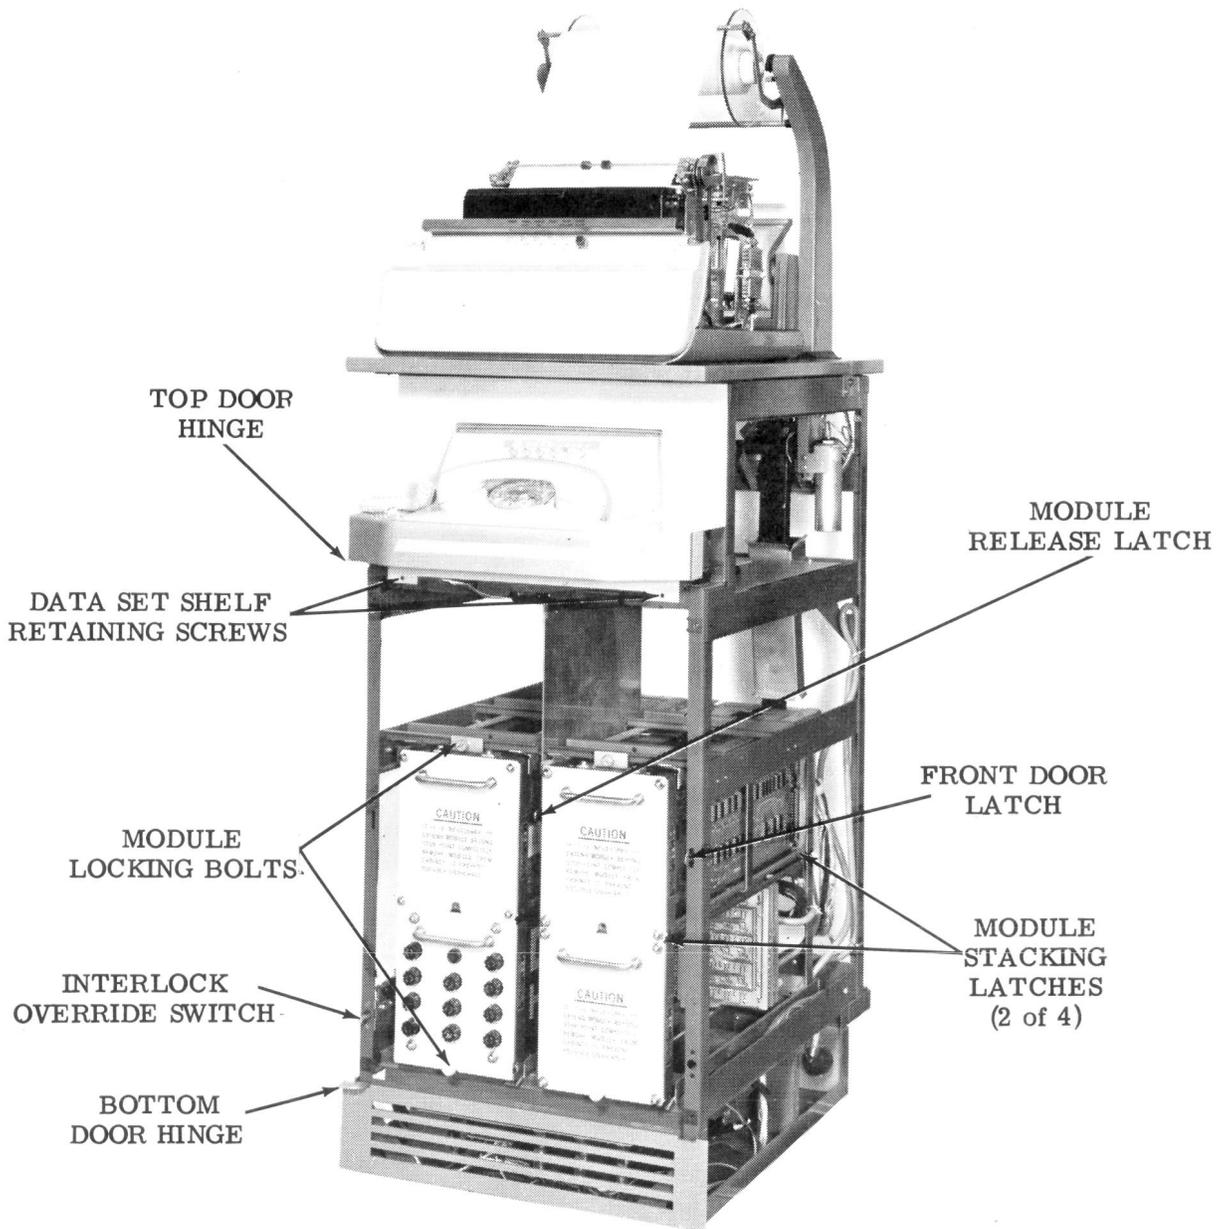

Figure 7 - DATASPEED Printer With Data Set Shelf Assembly (Panels and Doors Removed)
more convenient to remove the doors and panels to provide full access to the components (Figure 7).
2.25 The four modules that contain most of the electronic circuitry for the printer are mounted in the left and right compartments of the printer cabinet (Figure 7). The printer drive module (DAD) and power supply module (DAPS) are latched together in the left compartment, and the character generator module (DAG) and interface module (DAIF) are latched together in the right compartment. The lower module of each group rests on a pair of guide tracks at the bottom of the compartment. Each set of modules can be extended for servicing by unscrewing the bolts at the top of the upper module and the bottom of the lower module, and sliding the modules forward until they are stopped by the post on the release lever. To extend the modules beyond the stop point, the release lever must be pressed downward.